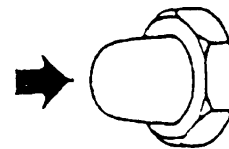

Figure 43. Emergency Stop Button
1. To stop the engine in the event of an emergency, **PUSH** the emergency stop button (Figure 43) inward.